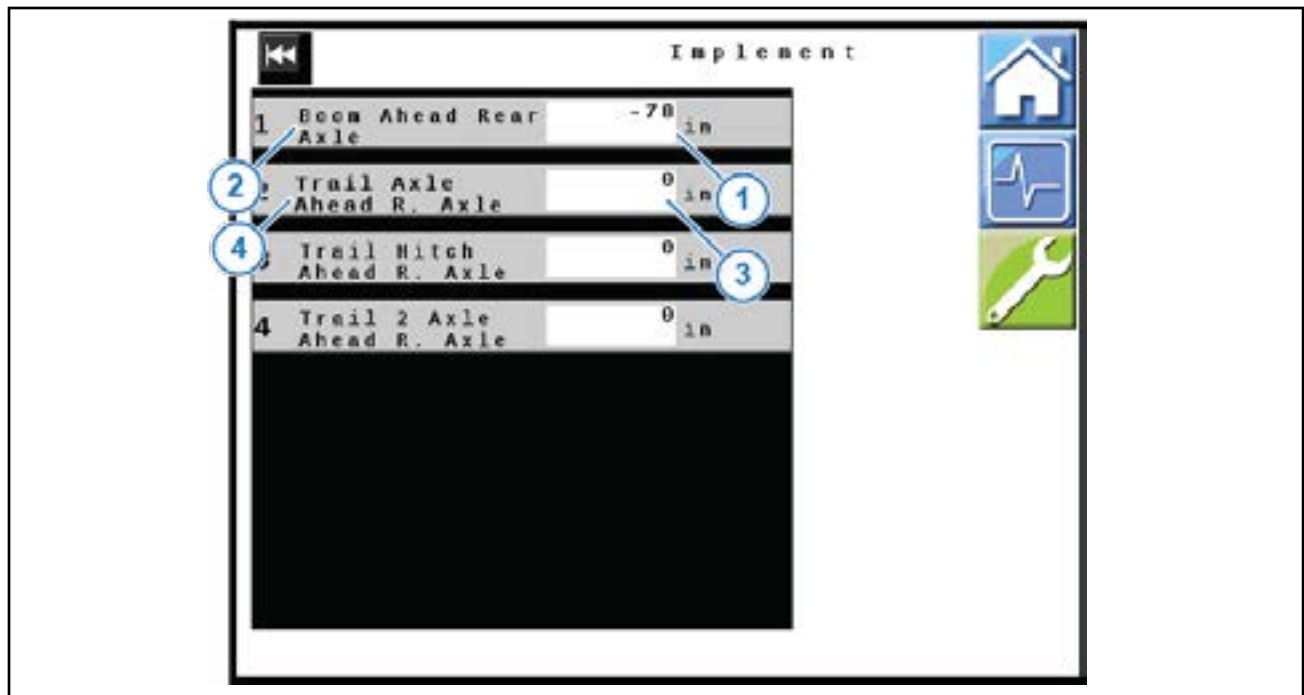

Figure 25: Implement Settings
8. Select the box (Figure 25, Item 1) next to Boom Ahead Rear Axle (Figure 25, Item 2).
10. Select the box (Figure 25, Item 3) next to Trail Ahead Rear Axle (Figure 24, Item 4).